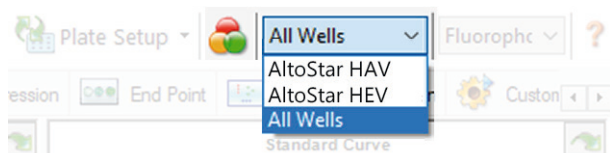

Figure 4: Well Group button and Well Group drop-down menu
In the Data Analysis window ensure to select the **Well Group** of the AltoStar® HAV RT-PCR Kit 1.5. Therefore, click on the **Well Group** drop-down menu right next to the **Well Group** button (see figure 4) of the toolbar. Do not use the “All Wells” **Well Group**. The selection in figure 4 is used as a general example view.
1. In the Data Analysis window ensure to select the **Well Group** of the AltoStar® HAV RT-PCR Kit 1.5. Therefore, click on the **Well Group** drop-down menu right next to the **Well Group** button (see figure 4) of the toolbar.